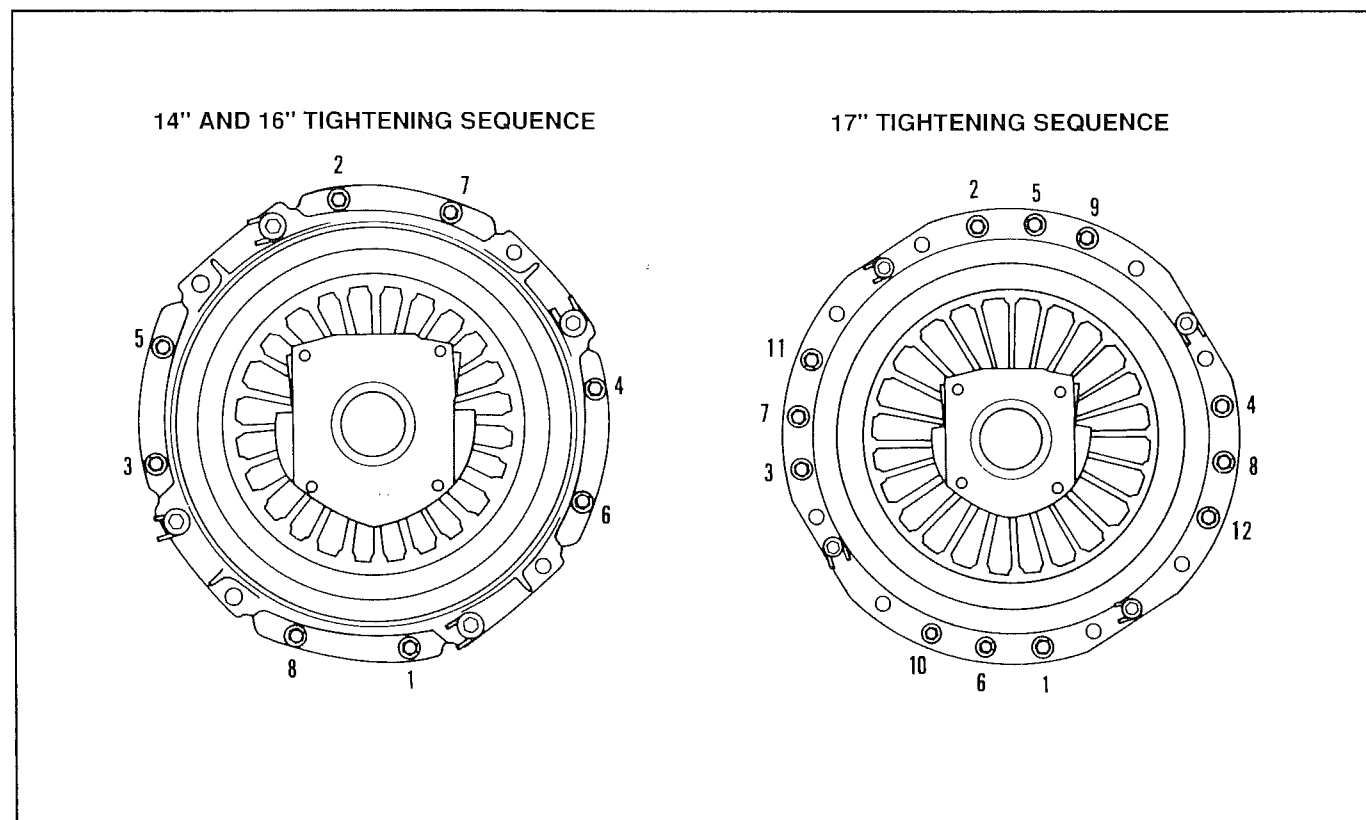

Figure 10-10. Tightening Sequence
22. Use a standard ratchet to initially tighten all capscrews in the recommended sequence (Fig. 10-10).